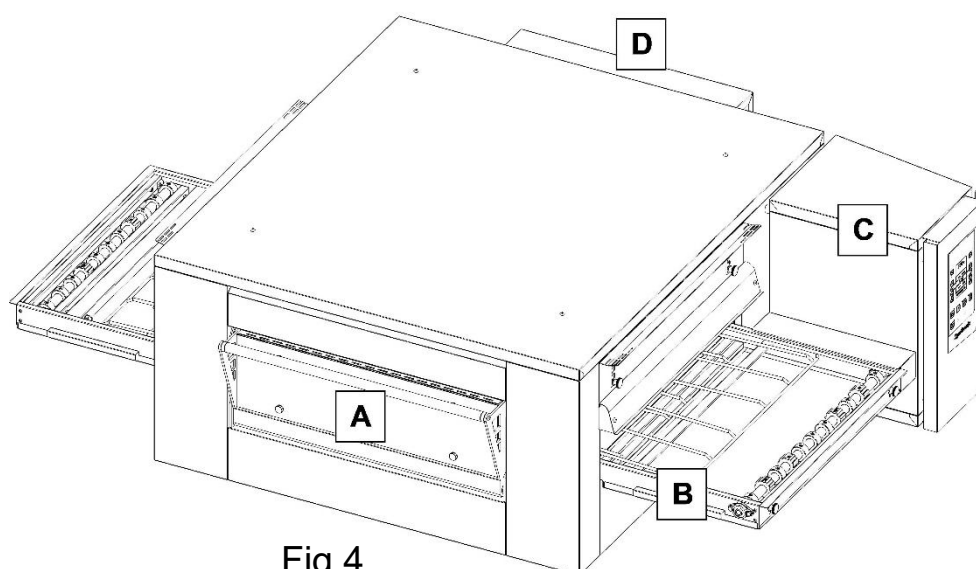

Fig.4
In the event that the oven is equipped with a door (Fig.4 zone A), check that it opens and closes properly.
Check the rack's tension (Fig.4 zone B), wear and alignment and, if necessary, adjust it by using the rack tensioners located at the oven entrance.
Dust, flour and dirt in general can accumulate inside the control panel (Fig.4 zone C), where the electrical components are located. In this regard it is advisable to inspect the area and clean using an extractor fan and/or compressed air. Use a soft brush to help clean the more difficult areas.
- In the area of the fan motor (Fig.4 zone D), check and clean the motors;
- The cleanliness of the pipes of the pressure switch (dust) (Fig.4 zone D).